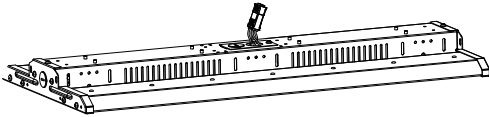
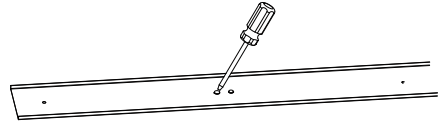

Figure 12
Figure 13
1. Knock out the knockout hole on the back of the fixture. Take out the wires from the knockout hole (Figure. 12). Open the front cover of the fixture and knock out the two knockout holes on the cover (Figure. 13).